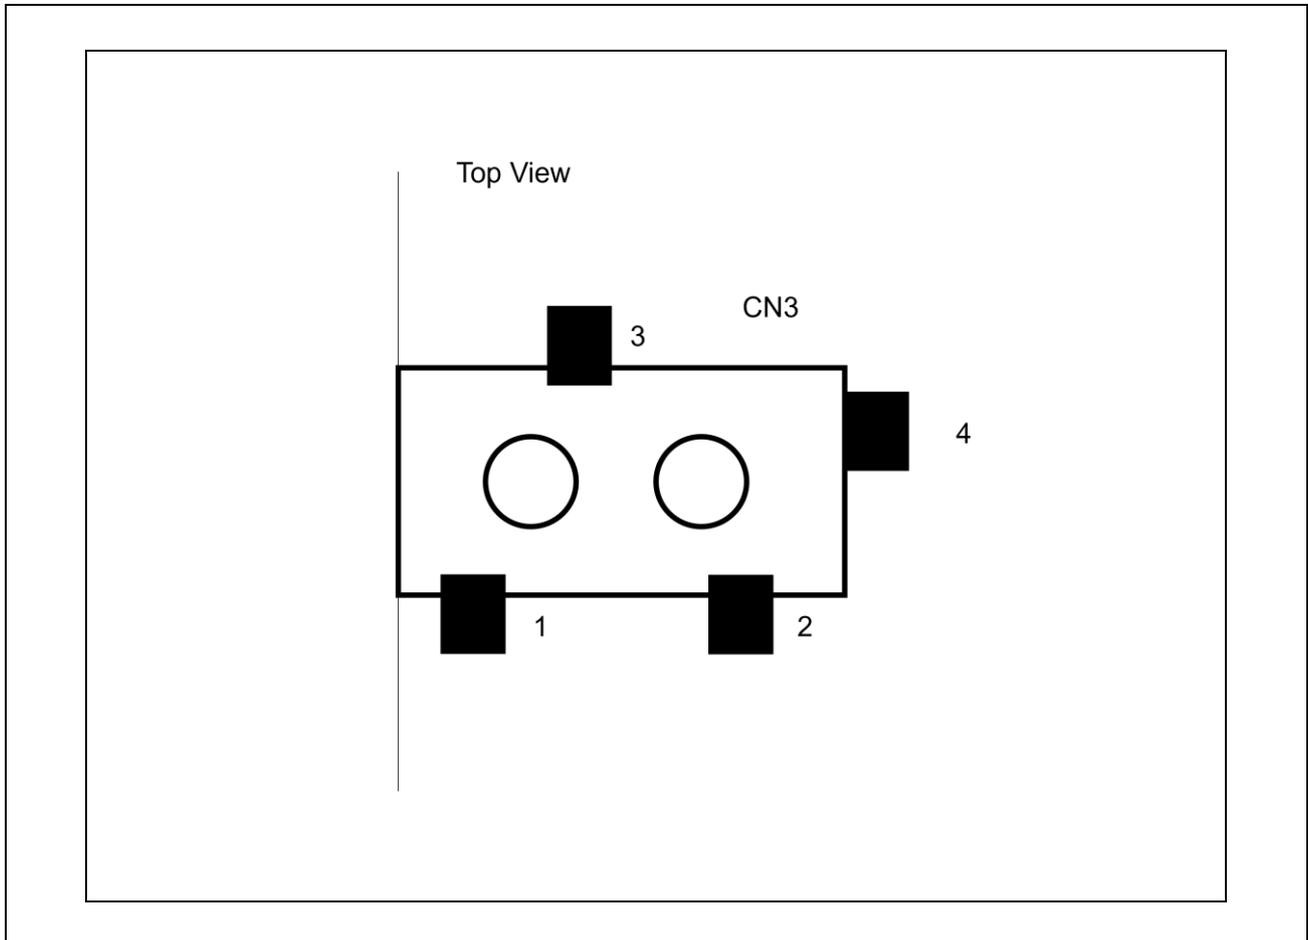

Figure 3.4 Layout of Audio Input Jack (CN3) Layout Diagram
**Figure 3.4** illustrates the layout of Audio Input Jack pins. **Table 3.3** shows the assignment of Audio Input Jack pins. Pin3 and Pin4 are also connected to MICBIAS terminal.